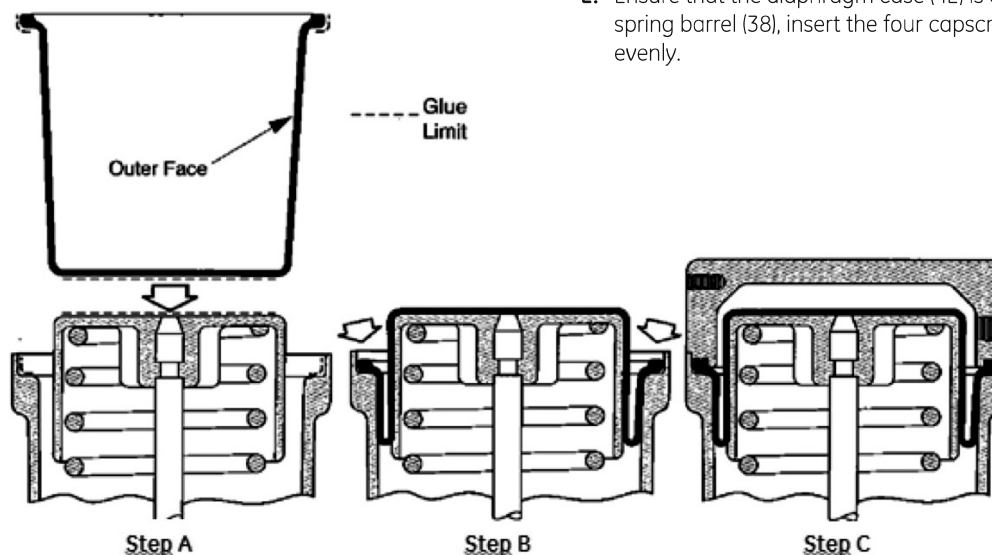

Figure 7 - Method 2
Note: The inner face of the diaphragm in contact with the piston is marked with the inscription "piston side"; be careful to keep coating of the Neoprene with limits corresponding to the flat part of the piston (Figure 7-Method 2, Step A).
- H-2.** Center and adhere the diaphragm (40) on the piston (43) (Figure 7- Method 2, Step A).
- I-2.** Roll the diaphragm (40) carefully inside the spring barrel (38) until the bead engages the spring barrel groove (38). Press lightly and evenly the bead so as to get with the two Neoprene-coated part stuck together. Check there is no twisting of diaphragm inside the spring barrel (Figure 7- Method 2, Step B).
- J-2.** Adjust diaphragm case (42) to the spring barrel (38) after checking that air connection is on the correct side and the threaded holes of diaphragm case (42) and the holes of the spring barrel (38) line up.